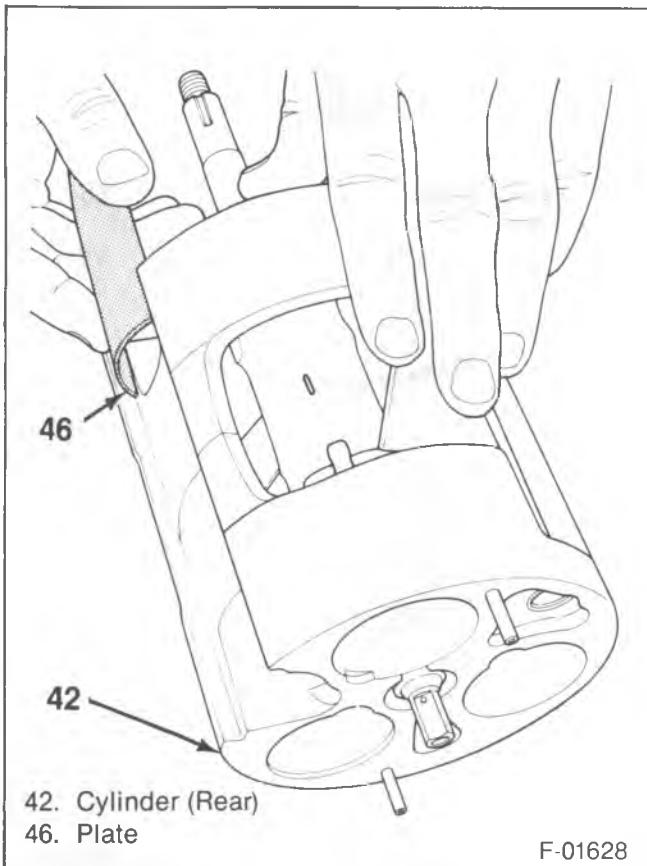
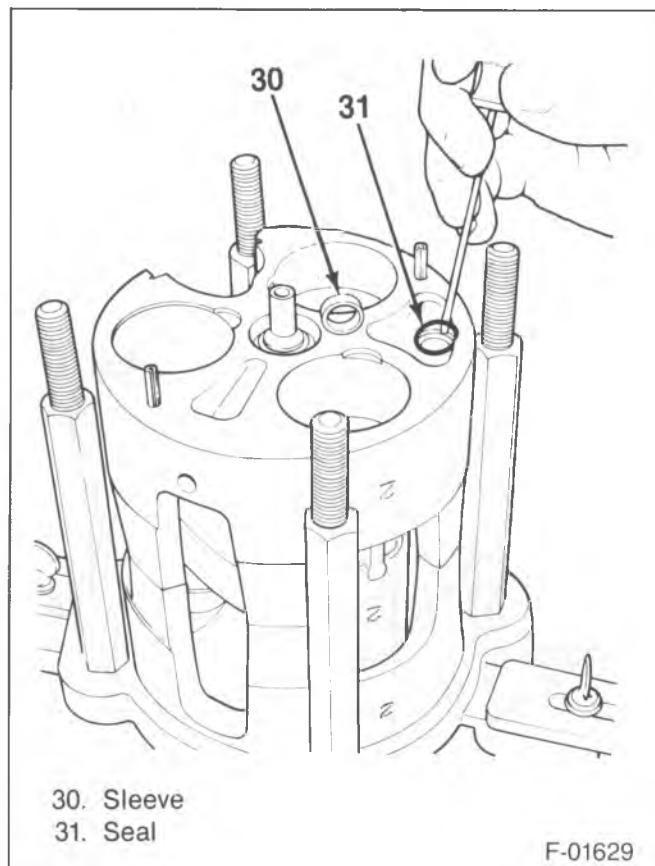

Figure 42—Installing the Suction Crossover Tube Plate
Figure 43—Installing the Discharge Crossover Tube
8. Suction cross-over cover (46) (figure 42).
- Compress the cover (46) to start it into the slot.
- Press on top of the cover (46) until the ends are flush.
9. Seal 925) and bushing (24) to the front end of the discharge cross-over tube (26) (figure 43).